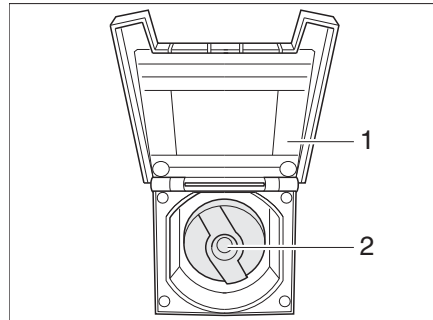

Fig. 144 Cap for the drinking water filler neck
- Open the cover flap (Fig. 144,1) of the drinking water filler neck.
- Insert the key into the locking cylinder (Fig. 144,2) and turn a quarter turn anti-clockwise.
- Close the cover flap (Fig. 144,1).
- Open the drinking water filler neck (Fig. 144).